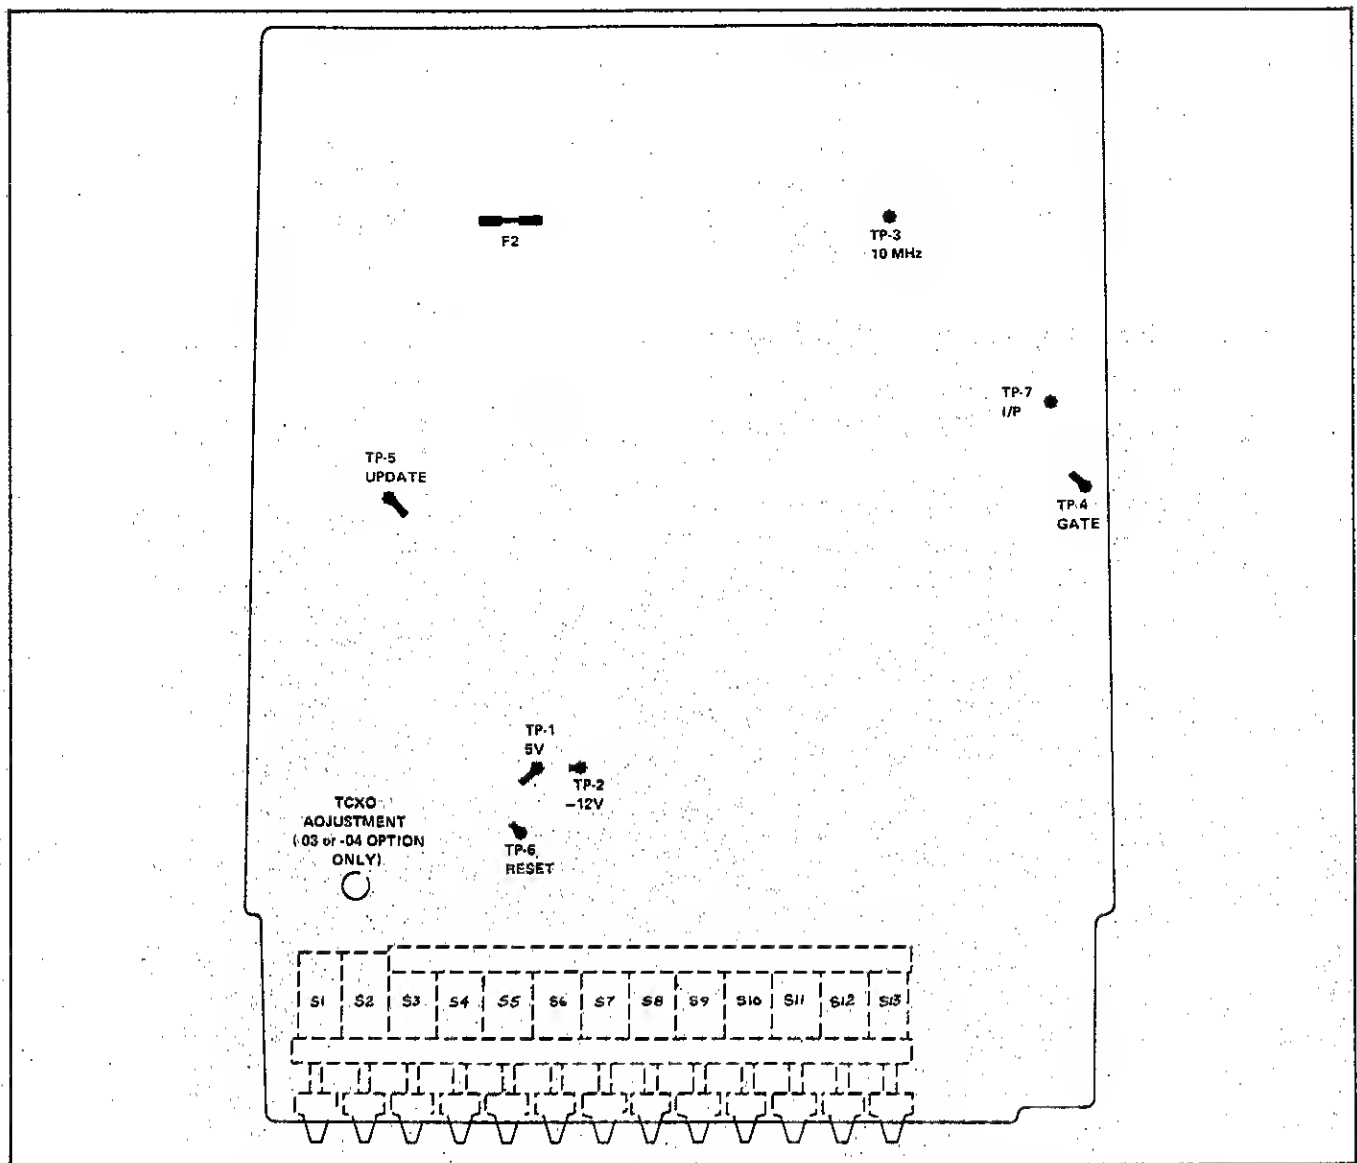

Figure 4-2. Main PCB (Bottom View)
5. Using a nonconductive screwdriver, adjust the TCXO through the Main PCB (see Figure 4-2) to obtain a reading of (overflow) 000.0000 ± 3 counts in the LSD.